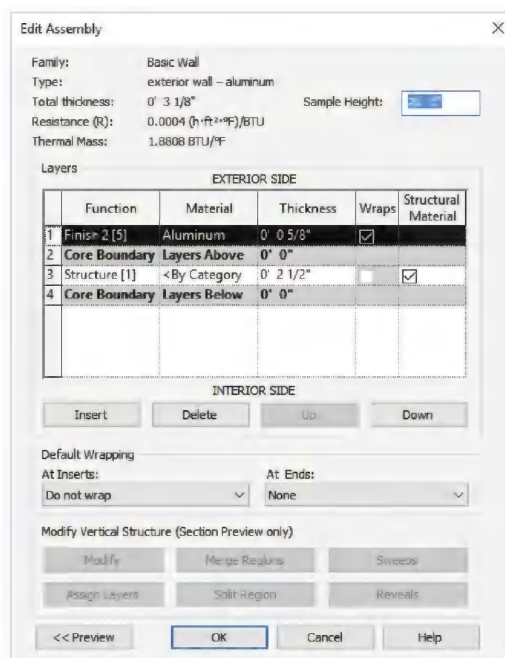

FIGURE 6-1.13 New wall structure
41. Click **Edit** next to the *Structure* parameter. Add a new *Layer* using the *Insert* button. Set the exterior finish with the material set to **Aluminum** and then edit the thickness to be **5/8"** (Figure 6-1.13).